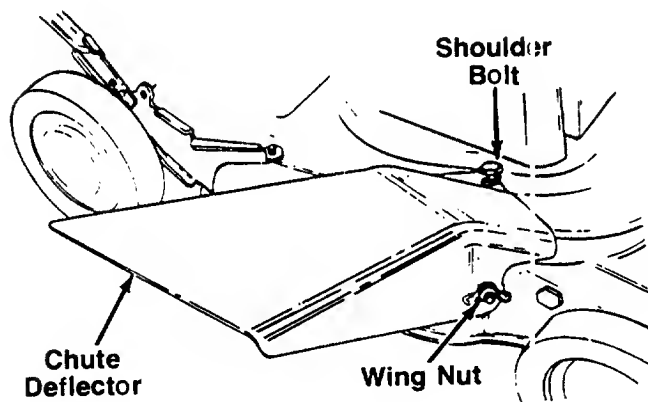

FIGURE 17.
2. Attach the side chute deflector by first placing it over the rear bolt in the side of the deck. Then slide the notch in the top of the deflector around the shoulder bolt on top of the deck. Slide the notch in the side of the deflector around the front bolt in the side of the deck. See figure 17.